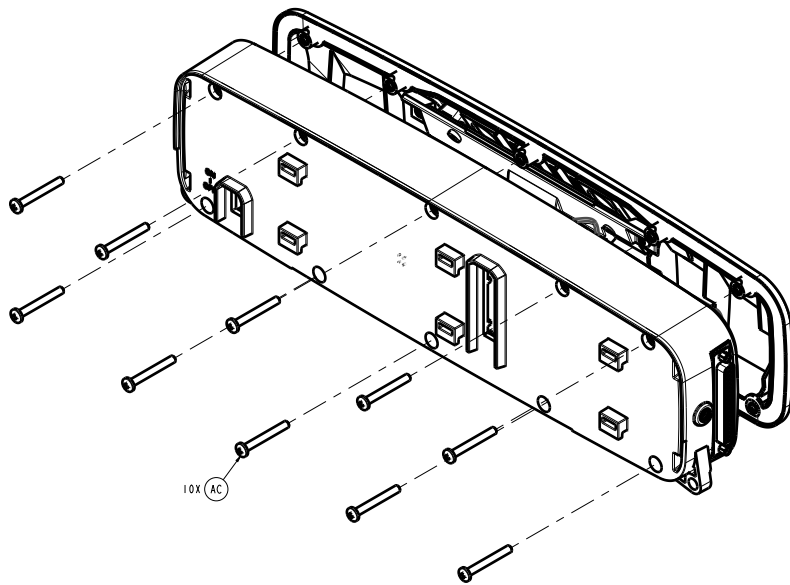

Figure 4 – Removing the cover
6. Using a #2 Phillips screwdriver, remove the ten screws (AC) that secure the front cover to the body (Figure 4). Save the screws.
5. Using a #2 Phillips screwdriver, remove the ten screws (AC) that secure the front cover to the body (Figure 4). Save the screws.